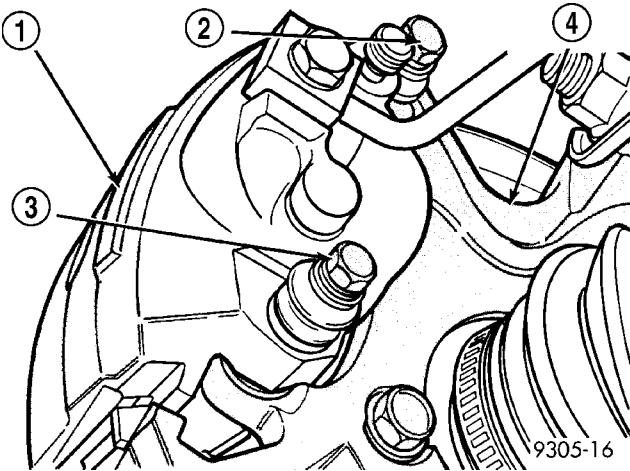

Fig. 11 Caliper Guide Pin Bolts
(1) Raise vehicle. (Refer to LUBRICATION & MAINTENANCE/HOISTING - STANDARD PROCEDURE)
(2) Remove front wheel and tire assemblies from vehicle.
(3) Remove the two caliper guide pin bolts (Fig. 11).
(2) Remove both front wheel and tire assemblies from vehicle.
- (8) Install the caliper guide pin bolts (Fig. 11). Tighten guide pin bolts to a torque of 22 N·m (192 in. lbs.).
- (9) Repeat the preceding steps on the opposite side of the vehicle, installing the brake shoes on that side of the vehicle.
- (10) Install the wheel and tire assemblies.